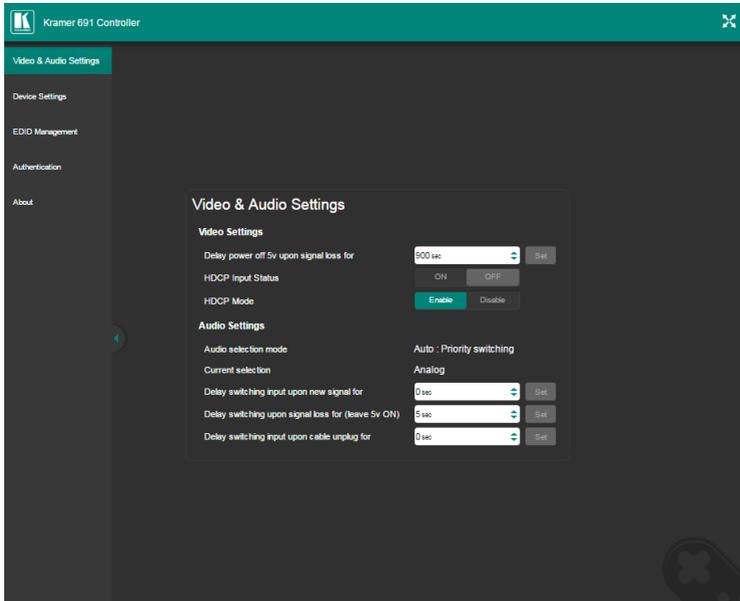

Figure 16: Video & Audio Settings Page
1. In the Navigation pane, click **Video & Audio Settings**. The Video & Audio Settings page appears (see Figure 16).
- From the **Video & Audio Settings** page (see Figure 16):